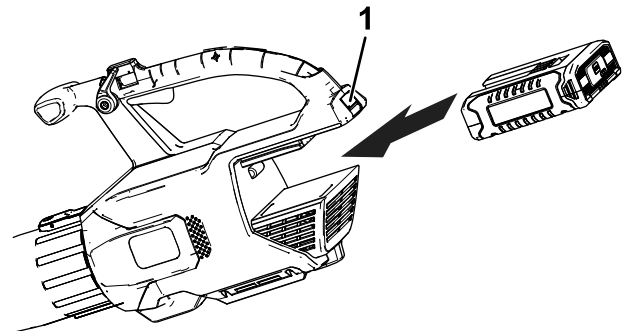

Figure 3
2. Align the cavity on the battery pack with the tongue in the handle housing, grasp the handle, and push the battery pack into the handle until the latch locks into place (Figure 3).